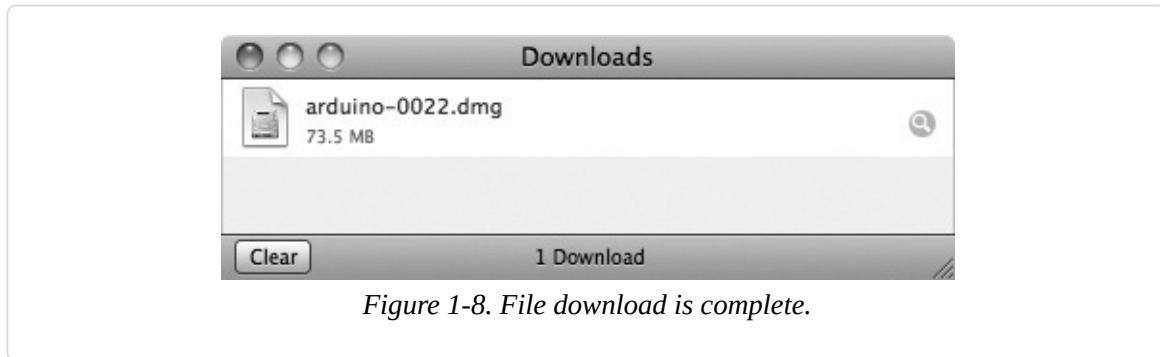

Figure 1-8. File download is complete.
2. Click the **Mac OS X** link. The file will start downloading, and it will appear in the Downloads window shown in Figure 1-8.